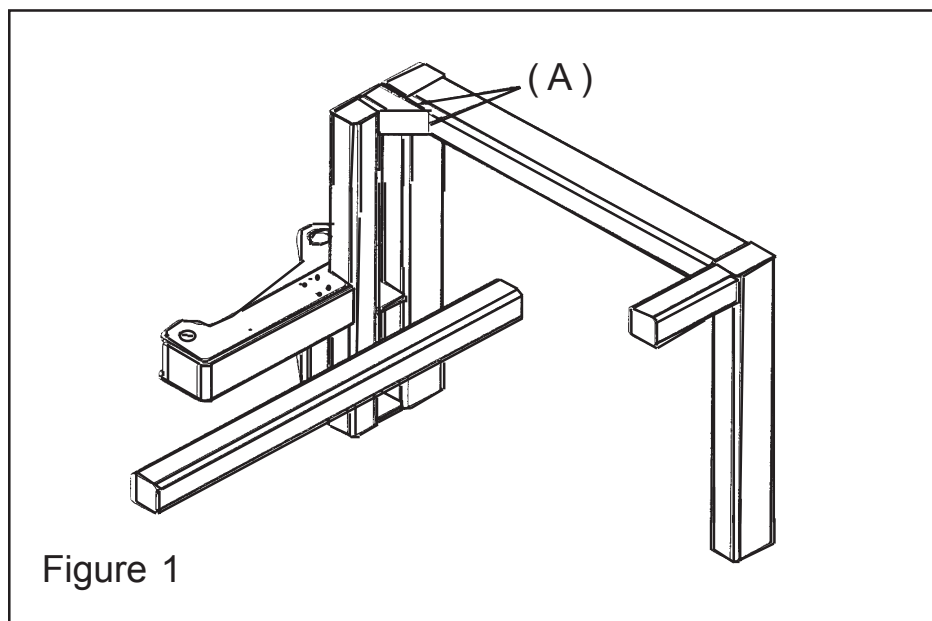

Figure 1
If cracks occur at points ( A ) Figure 1, use the following procedure to effect a satisfactory repair on the frame crossover tube.
4. After repairing the cracked areas, prepare the areas for the installation of the gusset P/N 02966825. the welds may have to ground so gusset will sit flat and square in area ( A ) figure 1.